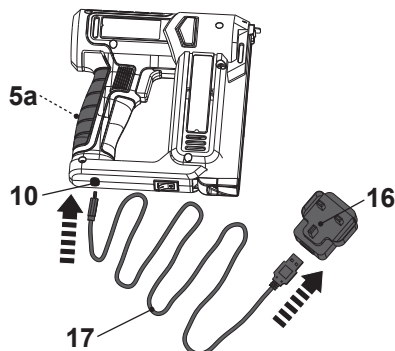

Fig. 4
1. To charge the built-in battery (5a), connect the Type-C USB port (10) to the power adaptor (16) via the USB charger cable (17) (Fig. 4).
2. Plug the power adaptor (16) into a plug socket.